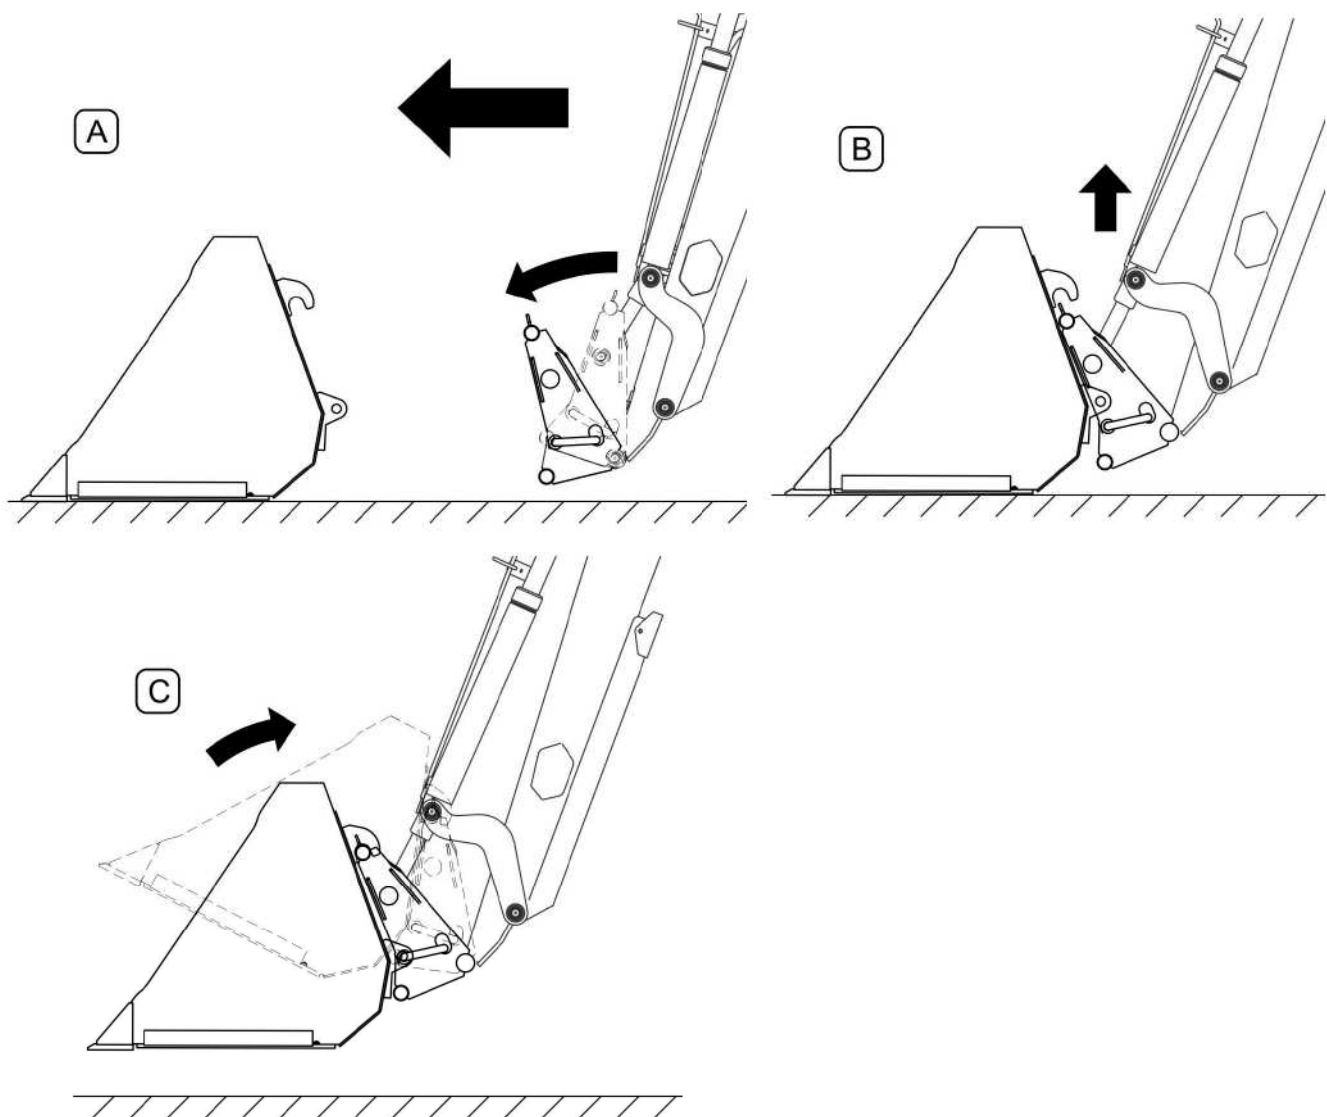

FIG. 4.31A Mounting working implement
- lower loader and turn frame forwards so that mounting points on quick mounting frame are below the mounting points in the implement; (A, FIG. 4.31A)
- raise loader introducing frame points into implement hooks; (B, FIG. 4.31A)
- moving lever in cab tilt frame to the rear causing interlocking of quick mounting mechanism; (C, FIG. 4.31A)